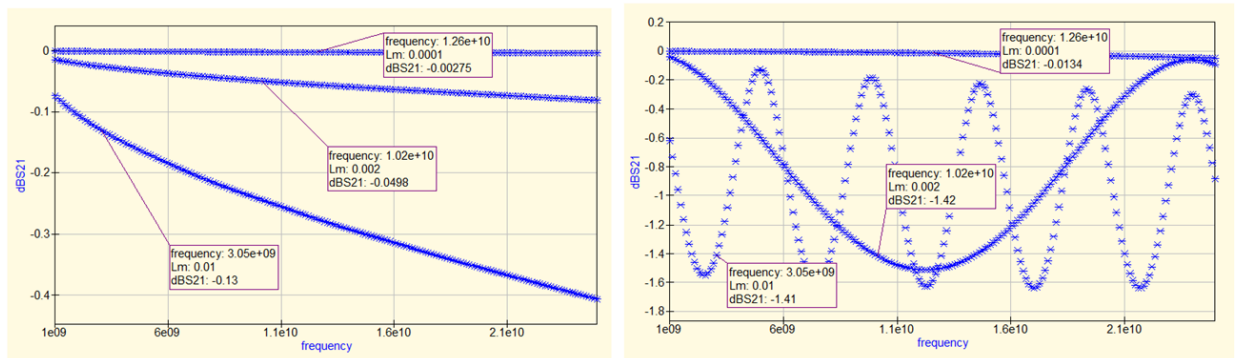

Figure 2. Left panel: impedance $Z = 50$ Ohm; Right panel: impedance $Z \neq 50$ Ohm
- 2.3 The calculation results should be presented as plots of S_{11} , S_{21} in a semi-logarithmic scale, similar to those shown in Fig. 2.